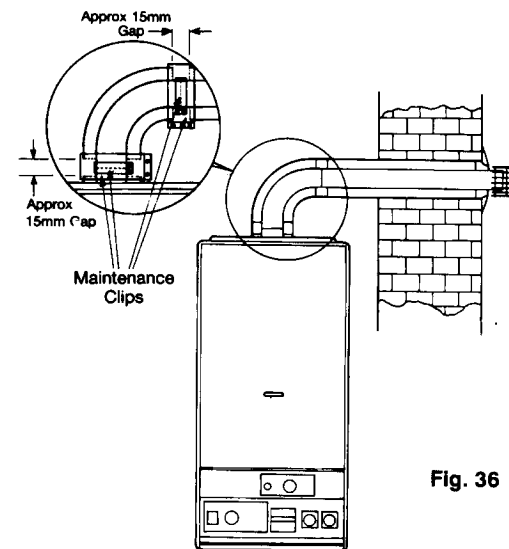

Fig. 36
- 8.16.5 Remove screws on large maintenance clips (fig 36) and remove clips, loosen screws on the small clips and remove flue elbow.